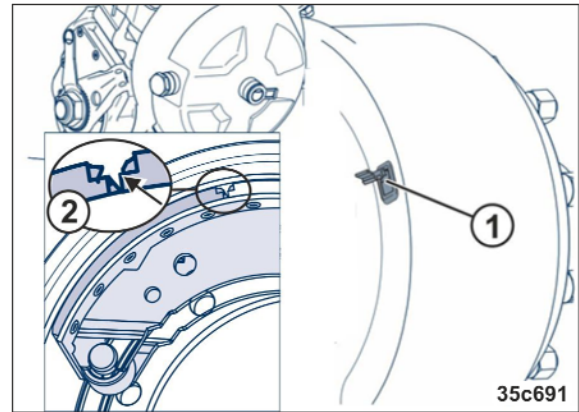

Fig. 323
To check the brake pad thickness, open the inspection hole (Fig. 323/1) by opening the rubber tab.
- Wear edge (Fig. 323/2) was reached.